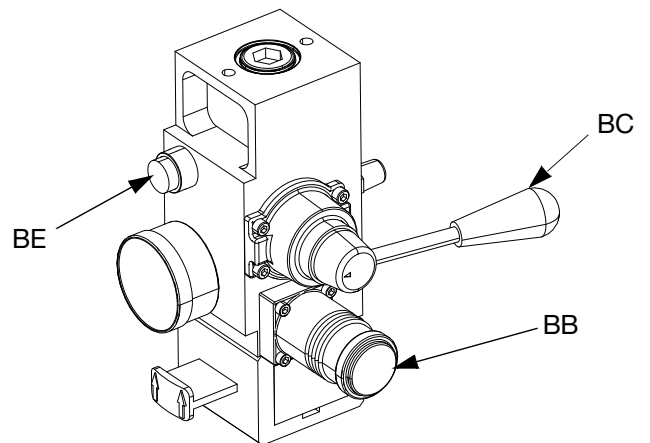
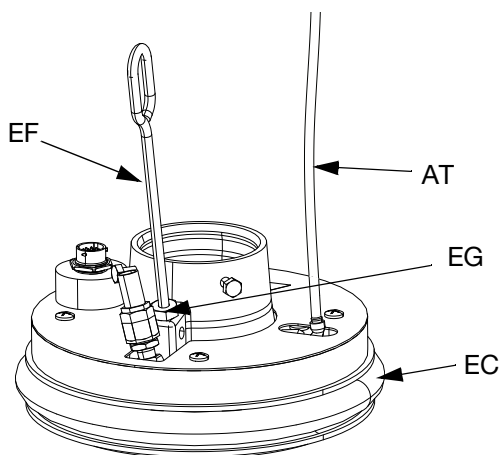

**FIG. 37. Power Disconnect**
FIG. 40
If the Platen (AD) does not come out of the pail easily when the Pump is being raised, the air assist tube (AT) or check valve (416) may be plugged. A plugged valve prevents air from reaching the underside of the plate to assist in raising it from the pail. See FIG. 40 on page 44.
1. Turn off power to the Electric Driver (AB):
- a. If using an ambient Single Ram Supply System, turn the red Disconnect Switch (AZ) OFF. See FIG. 37.
- b. If using a heated Single Ram Supply System, turn the black Power Junction Box Switch (AK) OFF. See FIG. 37.
- c. If using an ambient Tandem Ram Supply System, turn the red Power Junction Box Switch (AK) OFF on the Ram Supply Unit that requires a drum change only. See FIG. 37.
- d. If using a heated Tandem Ram Supply System, turn the black Disconnect Switch (AZ) OFF on the Ram Supply Unit that requires a drum change only. See FIG. 37.